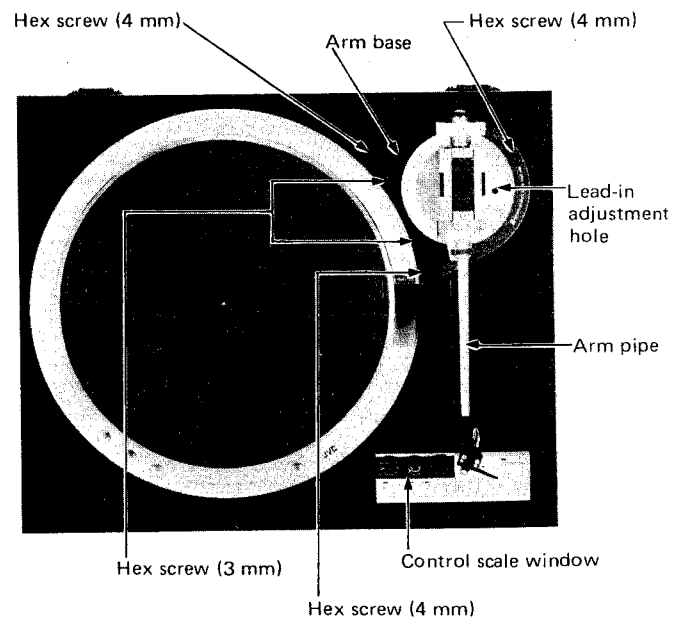

Fig. 19
(Figs. 19 and 20)
8-(6) Removal of control panel section (Figs. 19 and 22)
8-(7) Removal of LEDs on control panel section (Figs. 19 and 22)